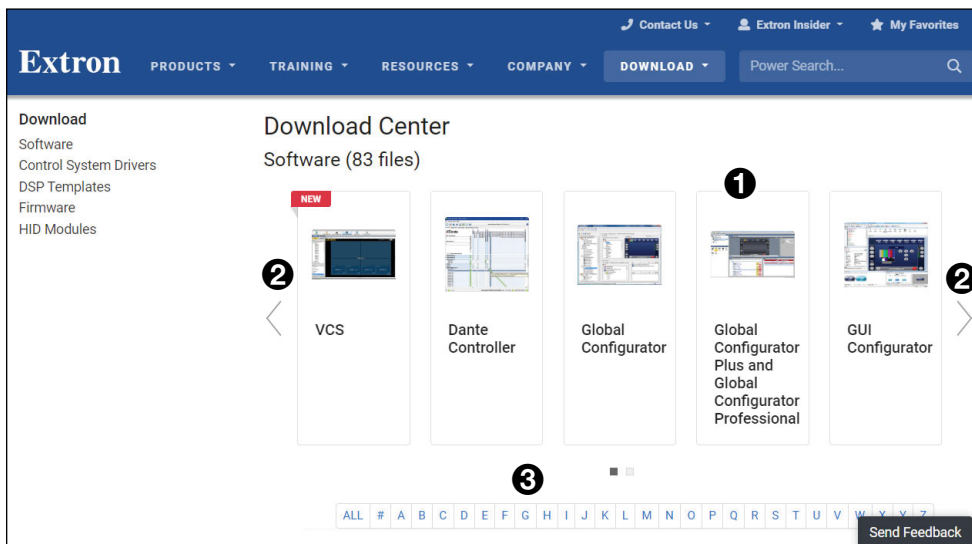

Figure 16. Software Download Center
3. You may see the product immediately, for example Global Configurator Plus and Professional (see figure 16, **①**) Use the left and right arrows (**②**) to scroll through all the highlighted products. If the software is not shown, click the initial letter of the product in the alphabet menu (**③**).